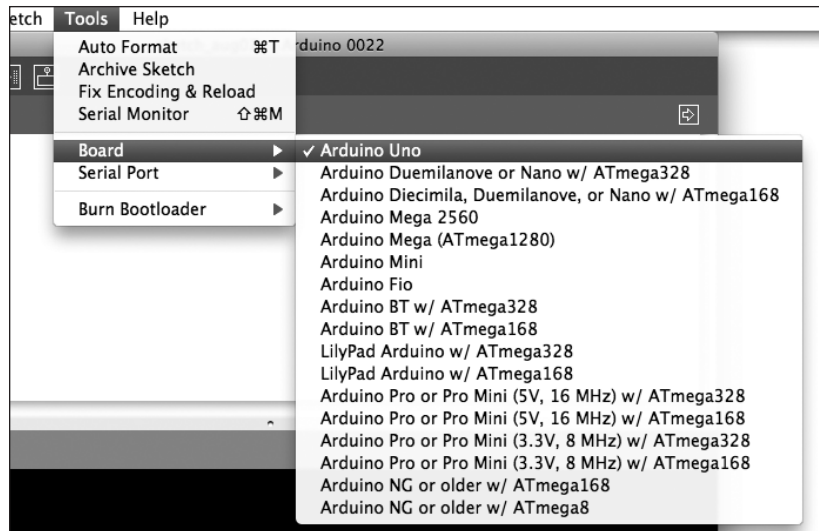

Figure 1-13: Selecting the correct Arduino board
4. The final step is to tell the IDE which Arduino board you have connected. This is crucial, since Arduino boards do differ. For example, if you have the most common board, the Uno, then select **Tools ▶ Board ▶ Arduino Uno**, as shown in Figure 1-13. The differences in Arduino boards are explained in more detail in Chapter 11.